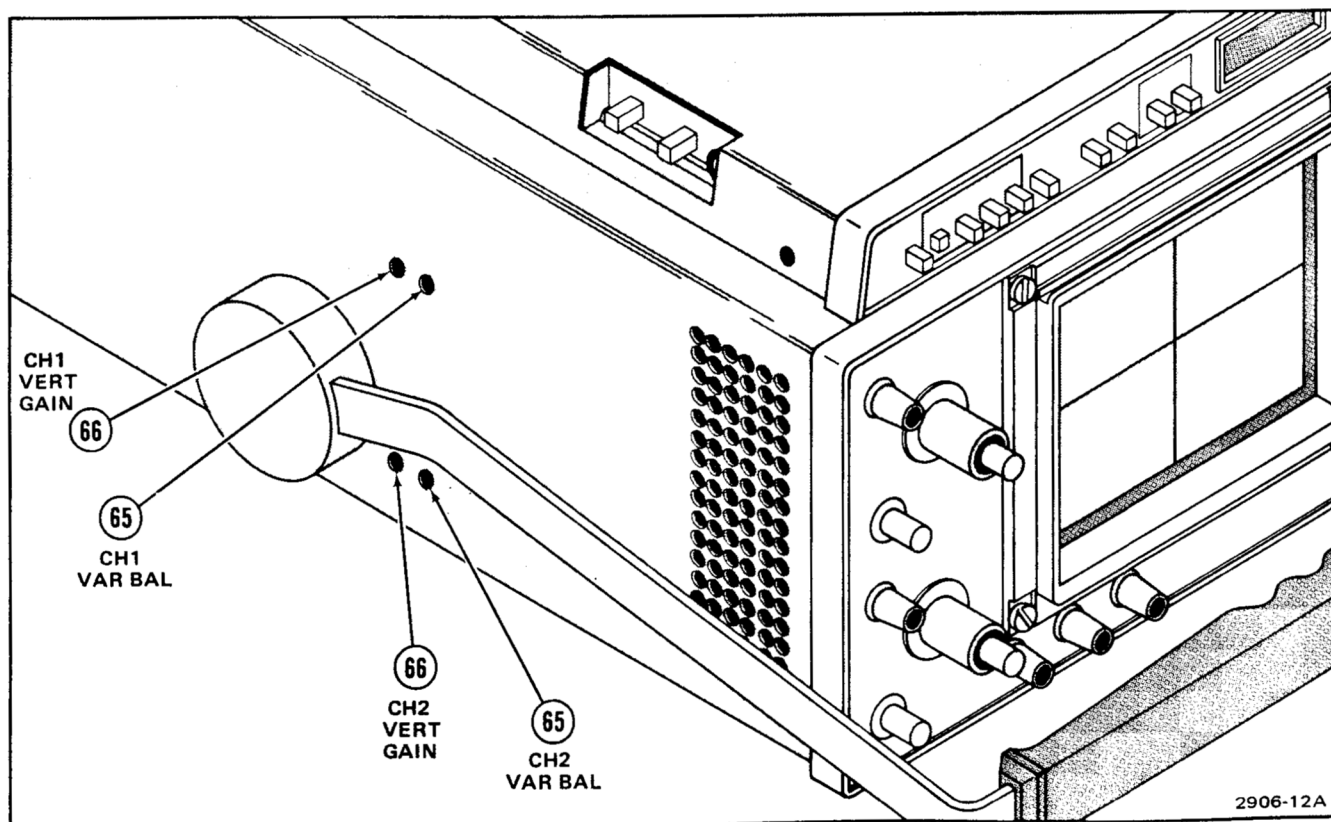

Figure 2-12. Left side panel controls.
Refer to Figure 2-12 for location of items 65 and 66.